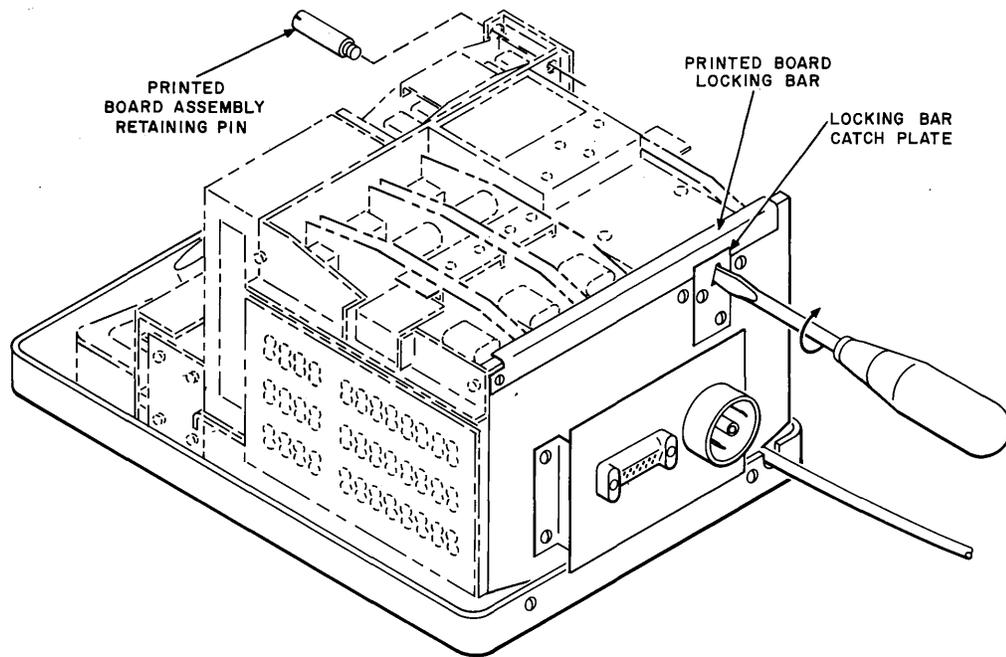

Fig. 11—Printed Board Assembly—Pivoted Retaining Bracket
4.02 For data sets equipped with the pivoted retaining bracket (Fig. 11), follow the procedure in 4.01 and substitute the pivoted retaining bracket for the retaining pin.